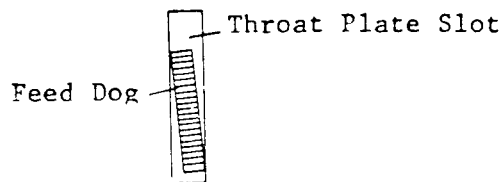

Fig. 19-b
1. If feed dog contacts the edges of throat plate slots (Fig. 19-a), this condition can be corrected by moving feed dog toward left or right, as required, after loosening two nuts on two screw centers.